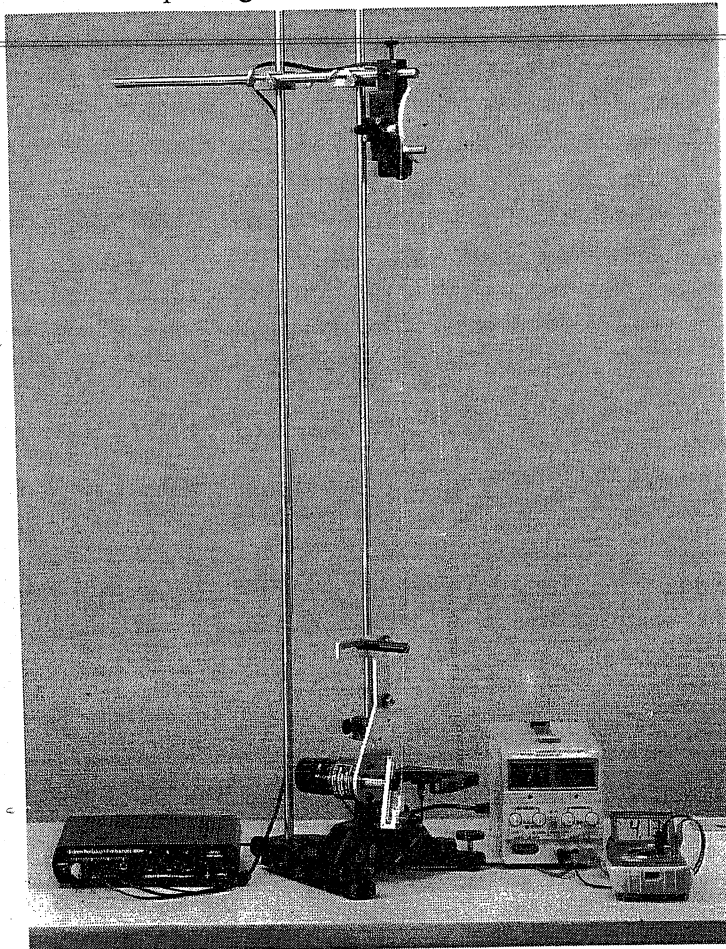

Figure 3: Complete Setup
2. Use two vertical rods connected by a cross rod at the top for greater stability. See Figure 3.